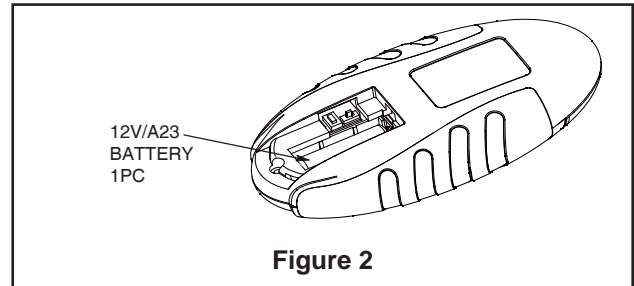

Figure 2
2. Remove the hairpin clip and clevis pin from the bottom of the downrod. Retain the pin and clip for reinstallation in Step 4 (Figure 2).
1. Securely attach the hanger bracket to the outlet box using the outlet box screws and washers supplied with the outlet box (Figure 2).
1. Slide the receiver unit into the open end of the hanger bracket (Figure 2).
- 2.** Securely attach and tighten the canopy screw cover over the shoulder screws in the hanger bracket utilizing the keyslot twist-lock feature (Figure 2).
2. Position the blade over the blade holder with threaded posts showing. Make sure the bottom edge of the blade is fully seated against the blade arm. With a Phillips screwdriver, tighten 3/16-24 x 8 mm washer head screws and fiber washers to secure the blade to the blade arm (Figure 2).
2. To make fan operational, install 12-volt 23 A battery in hand-held remote transmitter, (if not using for long periods of time, remove battery to prevent damage to transmitter). Store the remote away from excessive heat or humidity (Figure 2).